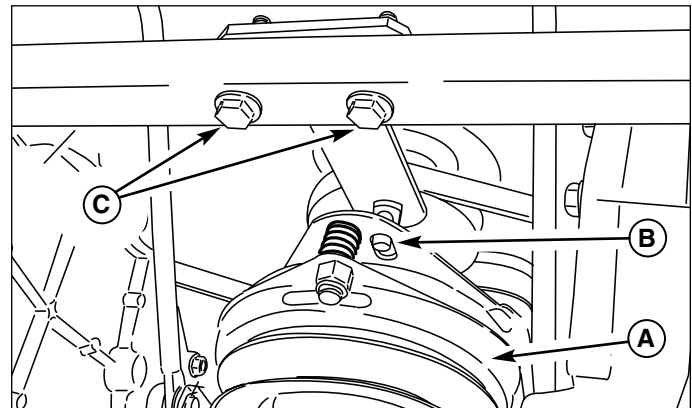
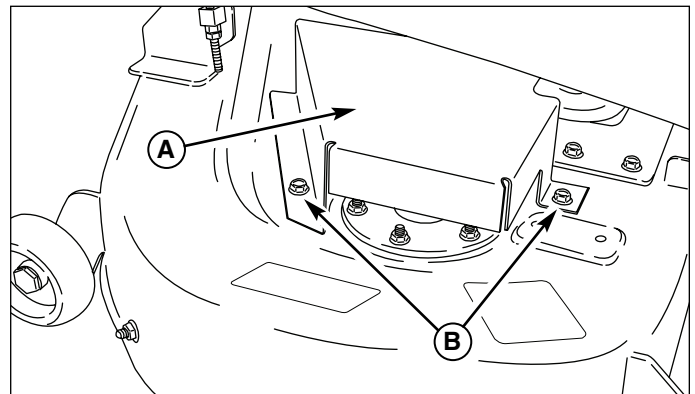

Figure 22. Anti-Rotation Bracket (View Looking Back from Mower Deck)
Figure 24. Belt Guard Removal
4. Loosen (do not remove) the anti-rotation bracket hardware (C, Figure 22), and slip the old belt out between the anti-rotation pin (B) and the PTO (A).
5. Reversing steps 3-4, install the new belt, following the routing in Figure 24. Make sure the V-side of the belt runs in the grooves of the crankshaft pulley and transmission pulleys (B & C). Also, make sure that the anti-rotation pin (B, Figure 22) is inserted into the anti-rotation slot on the PTO before tightening hardware (C).
2. Remove the hardware (B, Figure 24) securing the belt guards (A) to the mower deck, and remove the guards.